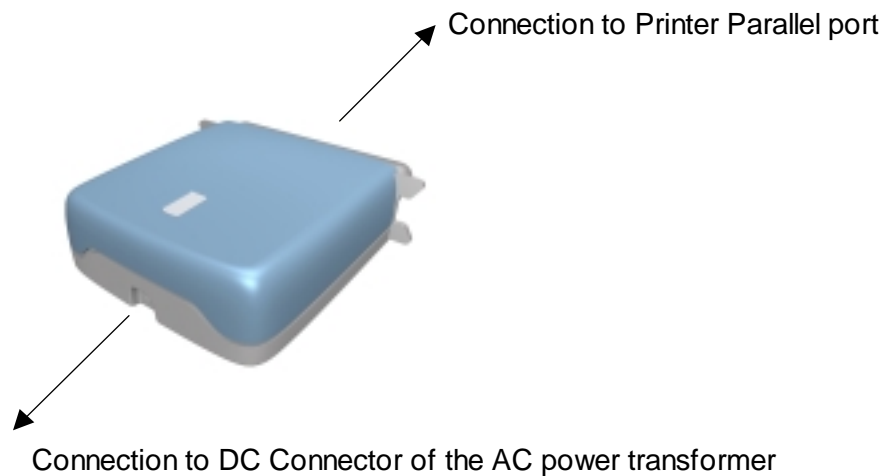

fig. 1
1. Insert the Printer Adapter into the parallel port on your PC-based printer. (fig.1)